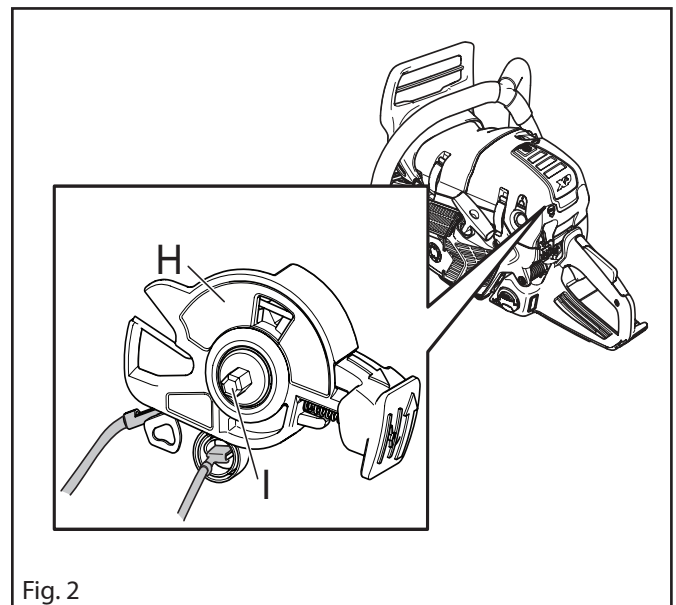

Fig. 2
1. If the start/stop switch has been replaced, fit the new start/stop switch (H) and tighten screw (I) fully. See figure 2.